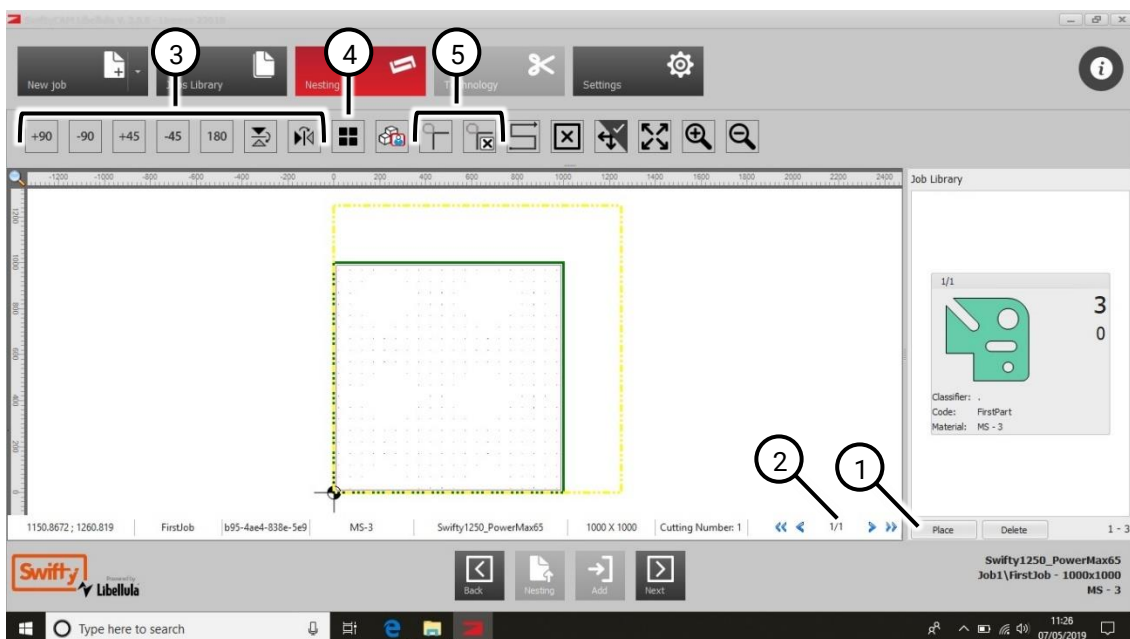

Fig 55 Nesting screen (Standard version)
1. The Nesting screen (Fig 55) displays the cutting table outline (yellow), the size of the material set in the Job settings (green), and the trim value (purple).
2.1 The quantity to be cut (in Fig 55 this is shown as 3).
2.2 The quantity currently nested (in Fig 55 this is shown as 0).
3. The Advanced version of SwiftCAM will automatically nest parts from the Job Library onto the sheet. If the parts do not fit on one sheet, a second sheet will automatically be created. The numbers in the bottom right hand corner shows sheet information (Fig 55 (2)). The arrows can be used to switch between sheets if multiple sheets have been created.
- 4.2 Press the Place button (Fig 55 (1)). The shape will be added to the bottom left of the nest preview.
- 5.1 Controls to rotate components and mirror in the vertical and horizontal direction (Fig 55 (3))
- 5.2 Array components (Fig 55 (4))
- 5.3 Add loops to corners of components to improve corner definition (Fig 55 (5)).